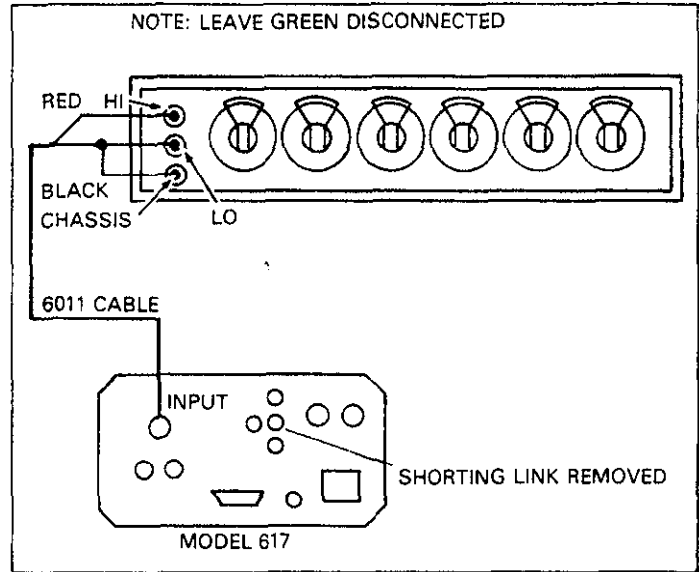

Figure 5-6. Corrections for Ohms Verification (2kΩ-20MΩ Ranges)
4. Connect the decade resistance box to the Model 617, as shown in Figure 5-6.